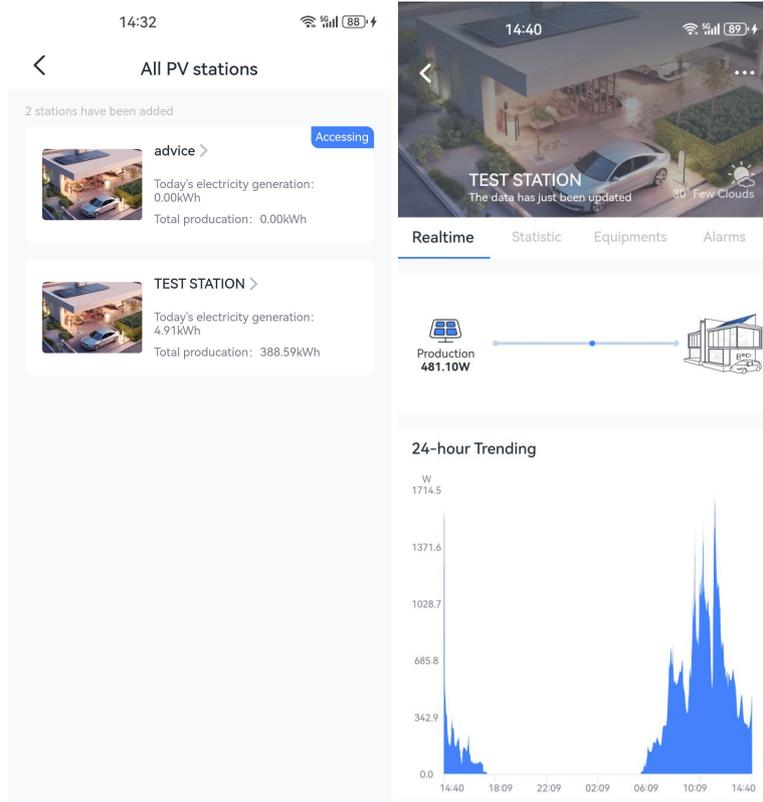

Figure 8.3.2
- Power station details page, you can focus on the power station name, data update time and other data (Figure 8.3.2)